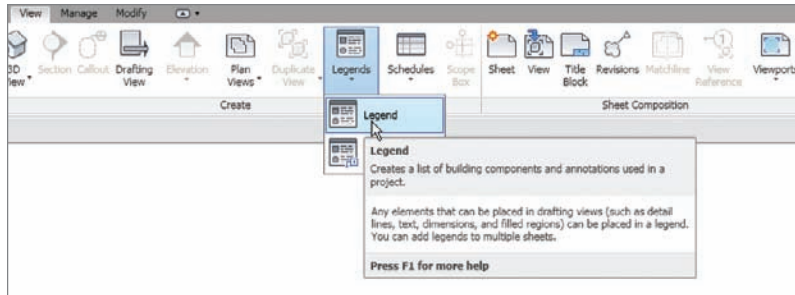

FIGURE 11.39 Click the Legends > Legend button on the View tab.
1. On the View tab, click the Legends > Legend button, as shown in Figure 11.39.